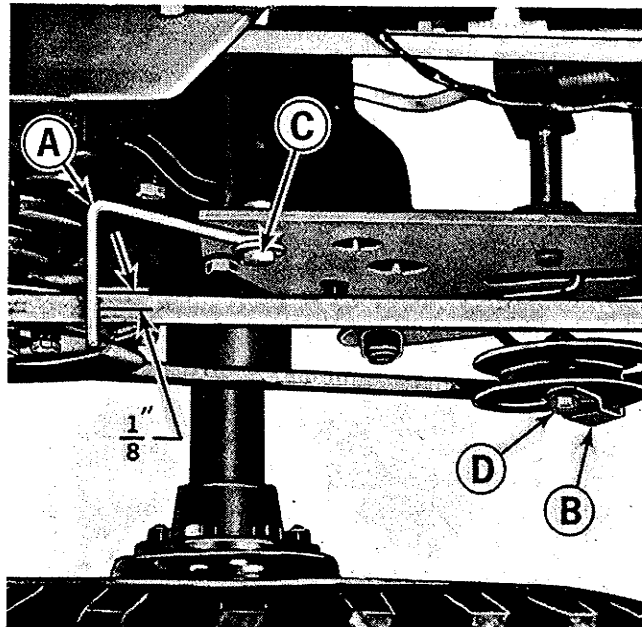

Figure 11. Belt Stop Adjustments.
See figure 11. With the clutch-brake pedal released, the belt stops at (A) and (B) should be positioned as shown. There should be $1/8''$ clearance between belt stop (A) and the belt as shown. If adjustment is required, loosen the cap screw at (C) and position the belt stop correctly. Tighten cap screw (C) securely after making the adjustment.